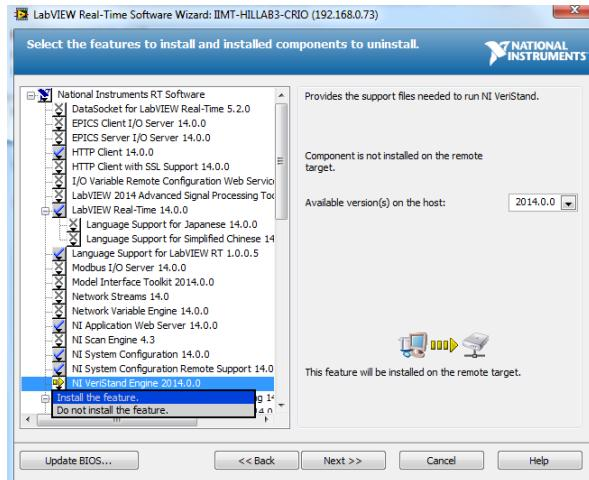

Figure 26: NI MAX - NI Veristand Engine installation 1
4. Locate NI Veristand Engine 2014 0.0 and click install feature. See Figure 26